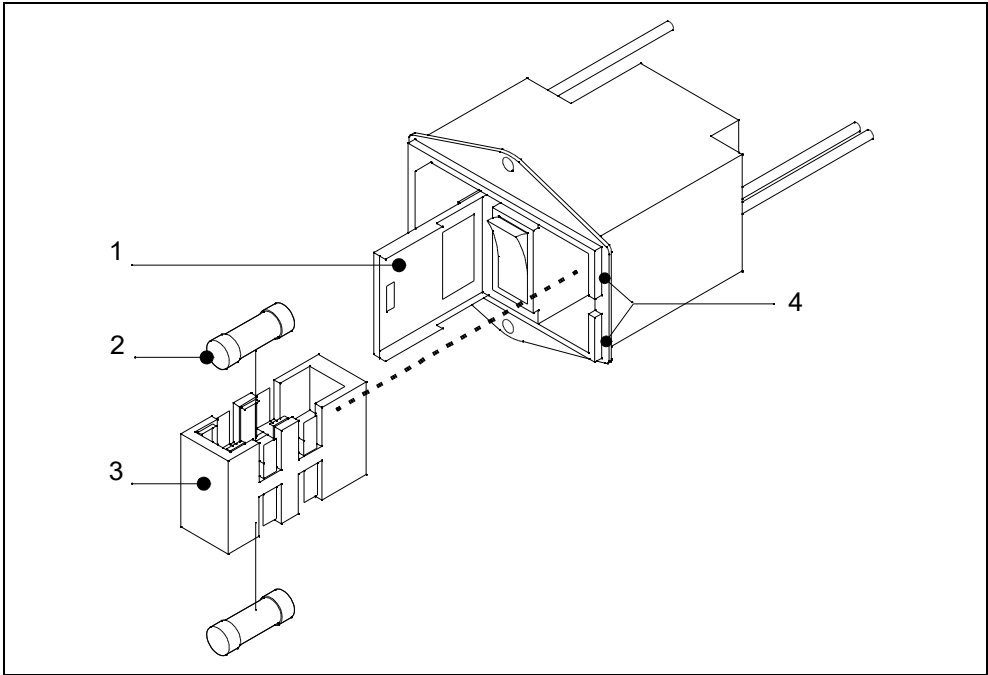

Fig. 7-5 Changing the fuses
- To replace the main fuses, use a screwdriver to open the cover flap guarding the fuse link. Insert the screwdriver into the corresponding groove and open the cover flap. See Fig. 7-5 for more information.